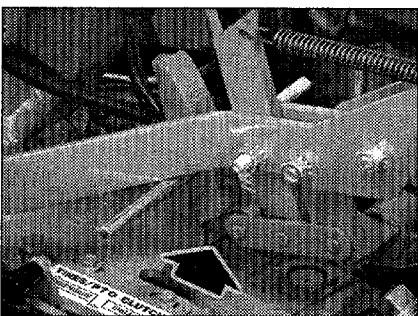

Figure 5-15: With Drive Lever in **FORWARD** position, clutch roller should be engaged slightly beneath the adjustment block.
4. Place the Wheels/Tines/PTO Drive Lever in **FORWARD** position. The arms of the clutch control yoke will be resting on the belt adjustment tool and the clutch roller should be engaged slightly beneath the adjustment block (Figure 5-15).